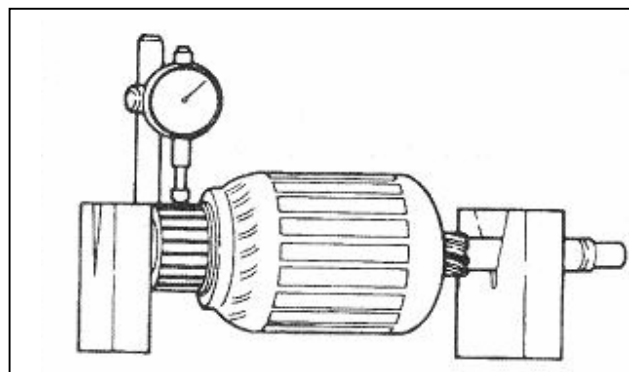

Fig. 9-15
(1) Commutation
- ① Place the armature in a pair of "V" blocks and check the run-out with a dial indicator. (see Fig.9-15) .